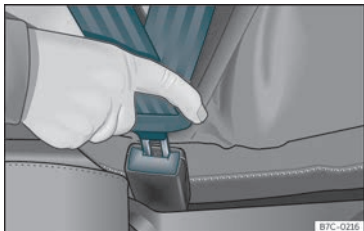

Fig. 8 Insert the latch plate of the seat belt into the buckle.
- Engage the latch plate in the buckle of the corresponding seat >>> **Fig. 8**.